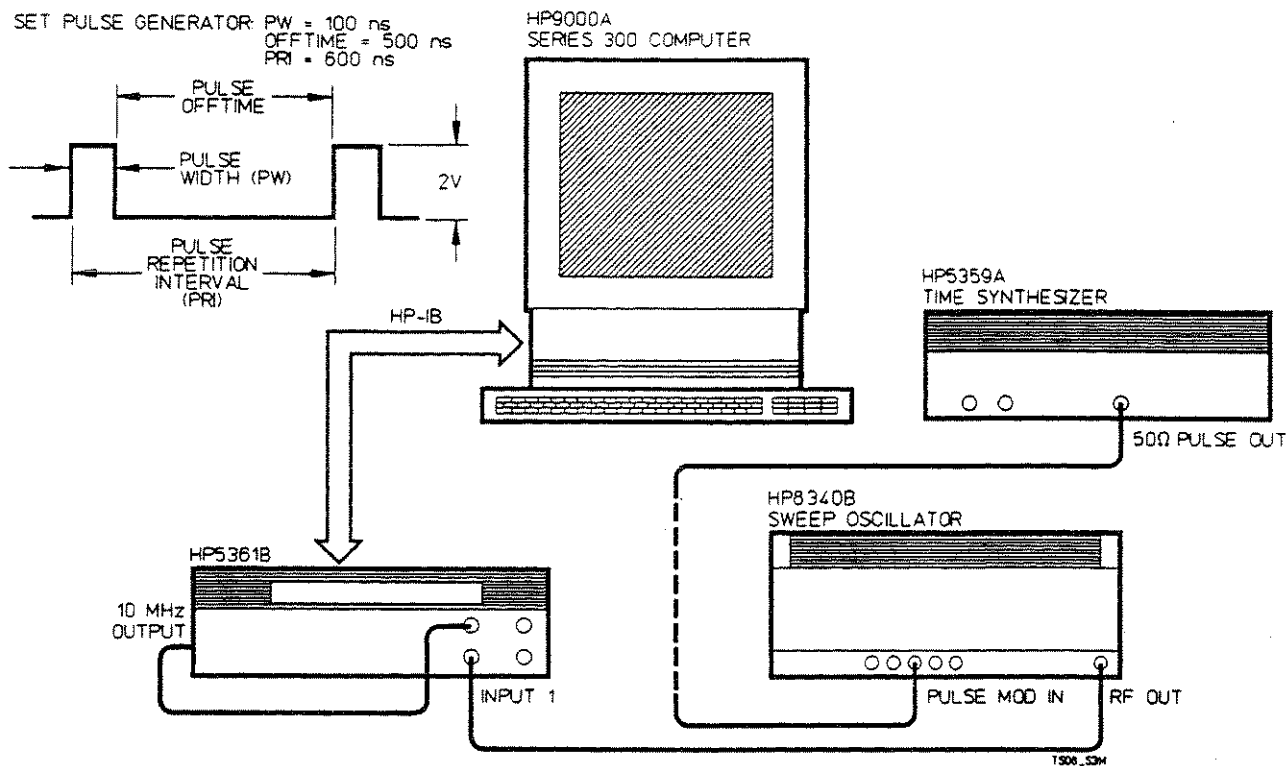

Figure 1-5. Setup: HP-IB Verification, CW/Pulse
The program listed at the end of this appendix exercises the HP 5361B through various operating modes via the counter's HP-IB interface. If the counter successfully completes all phases of the verification program, there is a high probability that the HP-IB interface (A11 Assembly) is operating correctly. You'll need to pass all check points of the verification program. Refer to the *Figure 1-5*.
- To perform the verification, set up the HP 5361B, HP 9000 Series 200/300 Controller, and signal source as shown in *Figure 1-5*. The program will function with any valid HP-IB address set for the counter. The first setup is for CW signal verification only and is used for program check points 12, 13, 14, and 15. The second setup is a minor variation of the CW setup that verifies pulse signal operation for program check point 16.
- c. Observe the pulse signal on the oscilloscope using a 50 Ω termination for final adjustment. The waveform should conform to the one defined in Figure 1-5.